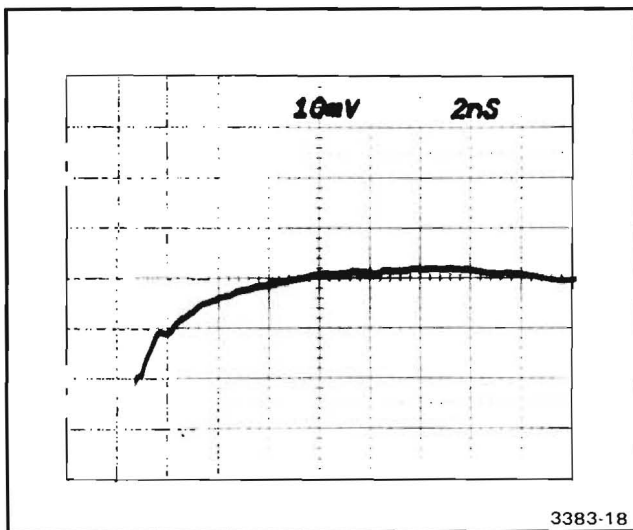

Fig. 4-8. Typical response curve as displayed on the sampling system.
- g. Examine—the positive-going pulse aberrations are 1 division. Refer to Fig. 4-8.